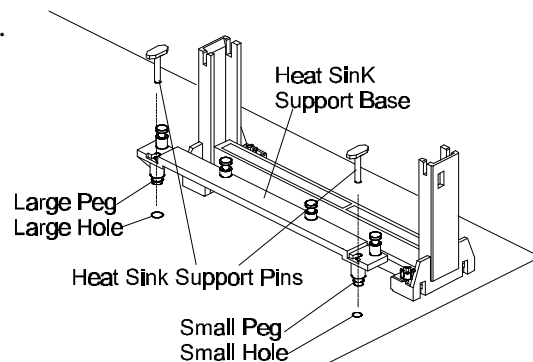

Figure 2-7
2. There are two plastic pegs on the bottom of Heat Sink Support Base (HSSBASE) bar. Mount the two black plastic pegs onto the mainboard. Notice that one hole and the bar of one peg are larger than the other hole and peg. (Refer to Figure 2-7)
3. Insert the Heat Sink Pins (HSSPIN) through the HSSBASE to secure it to the mainboard. (Refer to Figure 2-7)